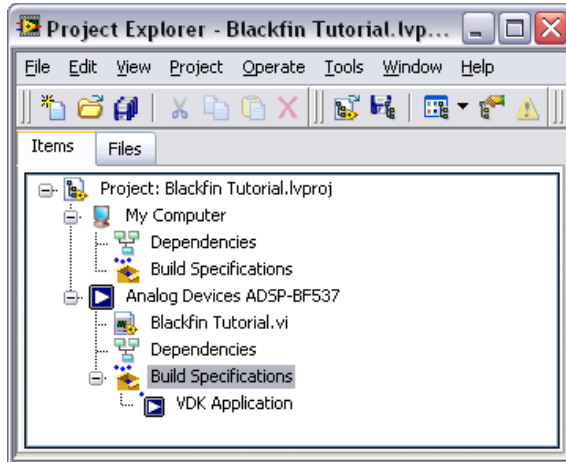

Figure 15. Blackfin Build Specification in the Project Explorer Window
- Click the **OK** button and expand the **Build Specifications** item in the **Project Explorer** window. The build specification you just created appears under the Blackfin target as shown in Figure 15.